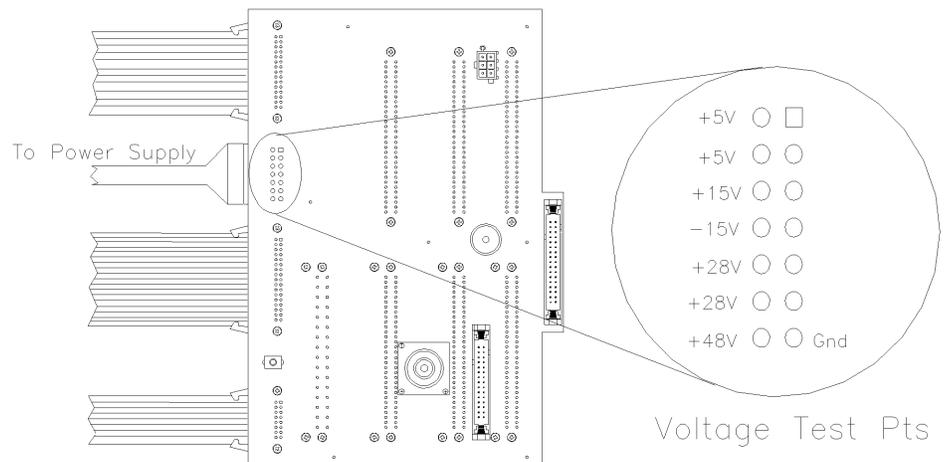

Figure 4-1, Backplane Card
1. Measure the power supply voltages at P507 on the backplane Card (see Figure 4-1). Use pin seven for DC common/ground.
2. To calibrate the power supply voltages, adjust the +5V trim pot on the front panel of the power supply. All other voltages will track the 5 volt power supply. Although no adjustments can be made to the other voltages, please check and verify that they are within their respective specifications as described in Figure 4-1.